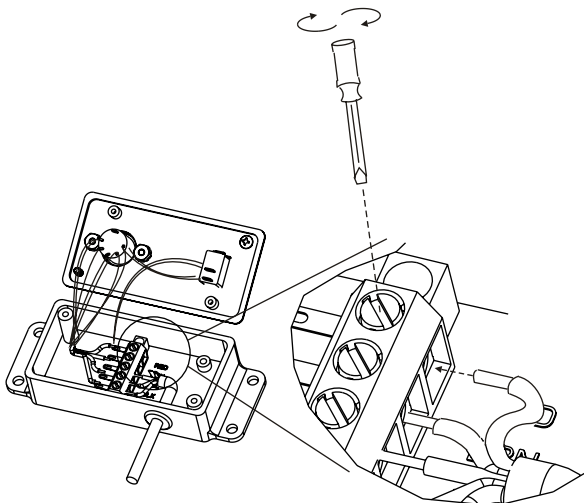

Figure 25-3
5. Insert each color wire into their appropriately-labeled terminal. Tighten each wire down after insertion. [Figure 25-3]